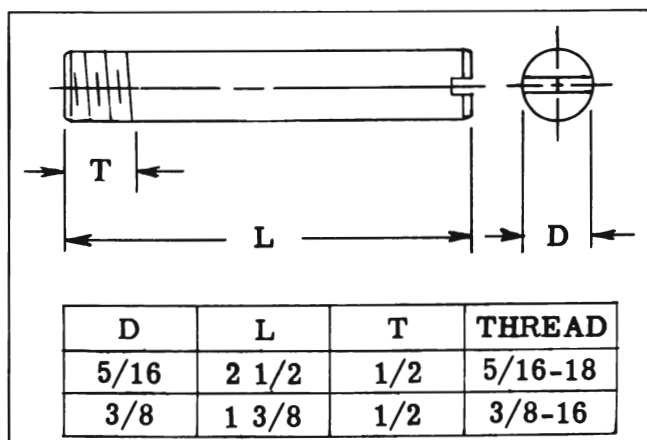
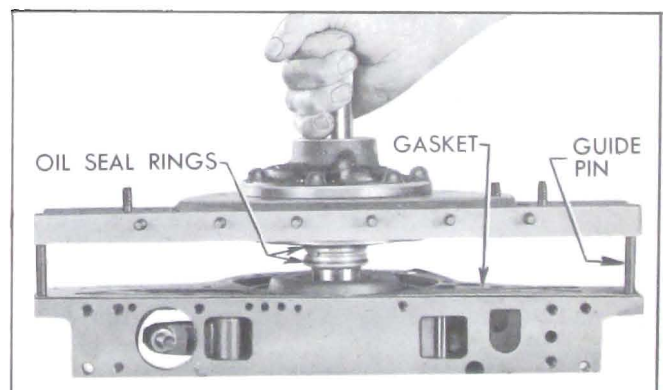

Figure 5-107—Guide Pins
Figure 5-118—Installing Reaction Shaft Flange and Gasket
6. Prepare two 5/16" x 2-1/2" guide pins and two 3/8" x 1-3/8" guide pins with screw-driver slot in plain end, as shown in Figure 5-107. These will be used for alignment of parts during assembly.
1. Install a 5/16" guide pin (Figure 5-107) in accumulator bolt hole at each end of flange on transmission case. See Figure 5-118.
4. Make certain that oil seal rings are on flange hub, then install flange assembly on case using care to avoid damaging oil seal rings. See Figure 5-118.
2. Install two 5/16" guide pins (Figure 5-107) in transmission case to guide each end of servo body, and install servo body spacer plate gasket over guide pins.